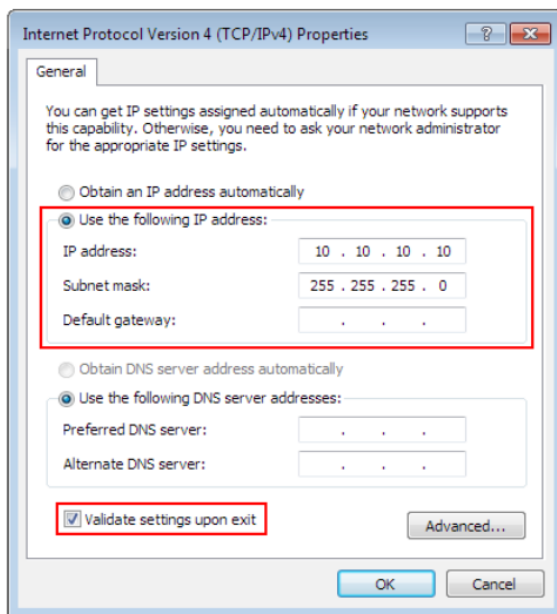

Figure 31: Network settings that need to be set prior to running the machine
- 7- On the pop up Internet Protocol Version 4((TCP/IPv4) properties window select the “Use the following IP address” option and fill in the IP address of the UC400ETH device and set the Subnet mask. The default IP address of the UC400ETH is 10.10.10.10 (this can be changed, refer to the UC400ETH manual for more details) and set the subnet mask to 255.255.255.0 value. Figure 31 shows the IPV4 network IP address that needs to be set.